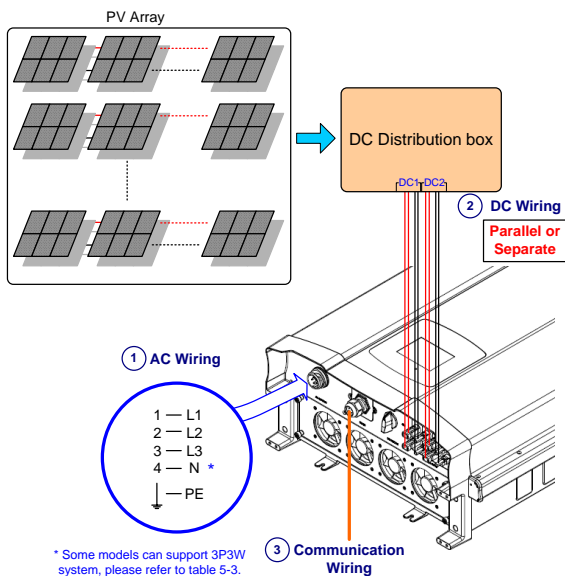

Figure 5-1 Connection of system if DC inputs are floating
To avoid accidents, please confirm that the PV inverter's power of both DC and AC are switched off. Please confirm whether the input/output of PV inverter's wiring are clearly indicated. Make sure whether the value, polarity, voltage and phase are correct. The whole system wiring is shown as in Figure 5-1 and 5-2. Different wiring detail is described in the following paragraphs.
- ◆ When DC input is floating, external transformer is not necessary. Please refer the Figure 5-1 for the connection. Inverter can accept DC inputs in parallel (1 MPP tracker) or separate DC input connections (2 MPP Tracker).